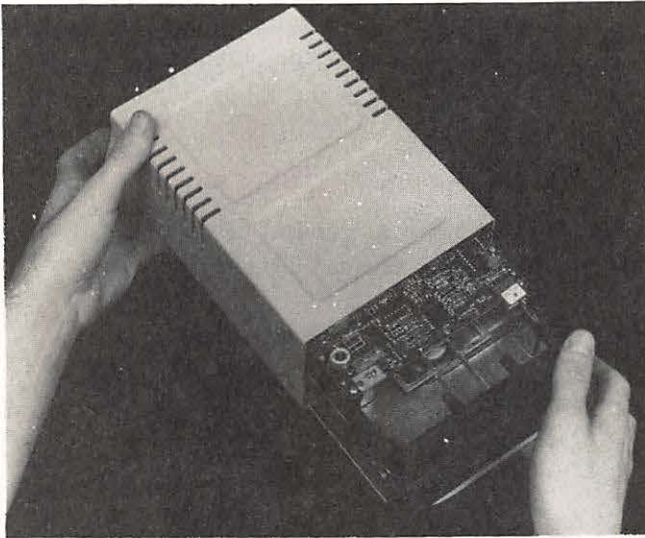

Fig. 8-13. Gently slide the drive case cover off the drive mechanism.
8. Gently slide the drive case cover back off the drive mechanism as shown in Fig. 8-13.